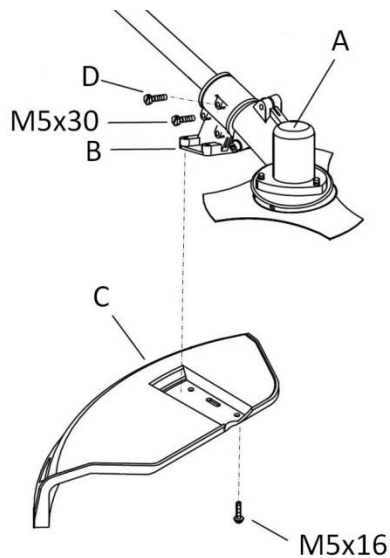

Fig. 7
Safety guard: (Fig. 7). The guard (C) for cutting tool is fixed next to the gear head (A) through the appropriate support supplied (B). The fixed distance of the shelter from the cutter, in accordance with CE regulations, is ensured by fixing the guard to the shaft with the M5x14 screw supplied (Part D). The type of shelter to be mounted should be chosen according to the tool used to cut. The dimensions of the fixing screws are specified in the drawing.